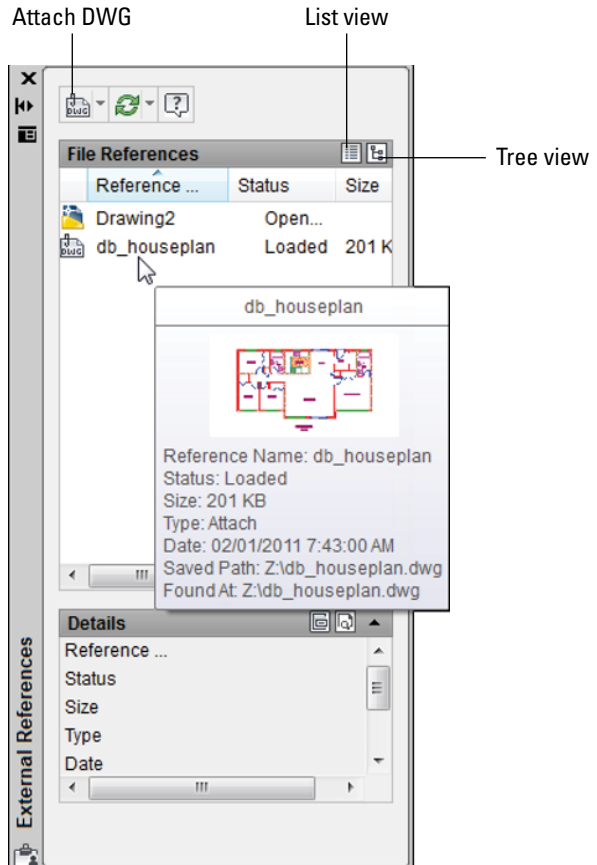

FIGURE 18-4: Use the External References palette to attach an xref.
3. Click Attach DWG. Click the down arrow if the tooltip offers to attach something else; see Figure 18-4.
- » **List of external references**: You can change between the List view and Tree view of your drawing's external references by clicking the appropriate button at the top of the palette (refer to Figure 18-4). You can resize the columns by dragging the column dividers or re-sort the list by clicking the column header names, just like in Windows or File Explorer.